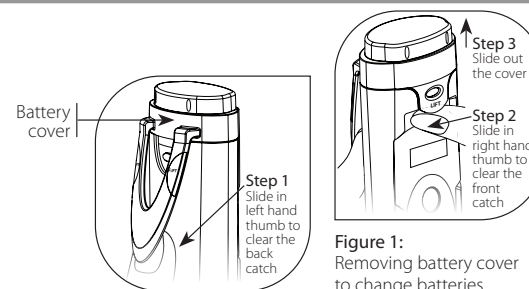

Figure 1:
2. Next, hold the cover with your right hand, at the same time release the front catch with your right thumb. Slide up to remove the battery cover (Figure 1)